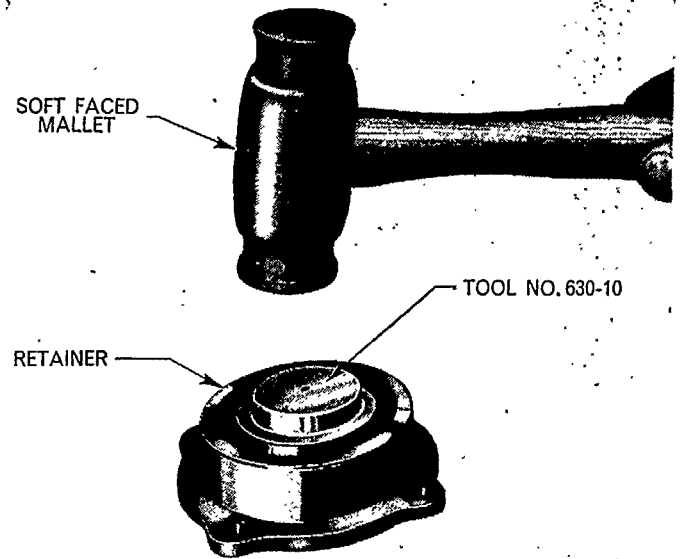

Figure 33
2. Install a new oil seal to the output shaft retainer with Tool No. 630-10 (reversed) and a suitable driver, Figure 33. The oil seal must be installed before the bearing cup. Install the bearing cup in the same manner using Tool No. 630-15.